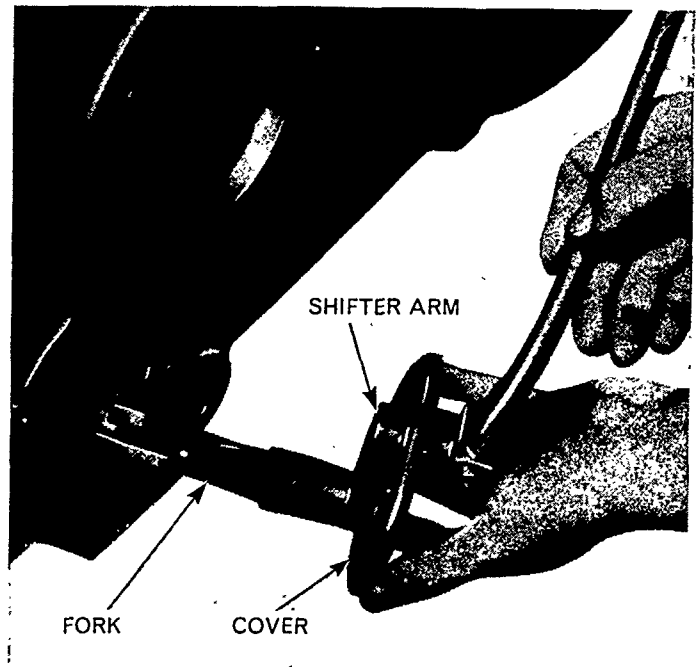

Figure 25
1. Remove the three bolts and lockwashers securing the P.T.O. selector lever plate to the left-hand side of the rear axle centre housing. Lift out the P.T.O. selector lever, plate and fork, Figure 25. Slide the selector ring off the splines of the P.T.O. shaft and remove the hydraulic filters. Remove the lower right-hand bolt on the drive pinion retainer, to remove the inlet filter. Remove the handbrake assembly if fitted.